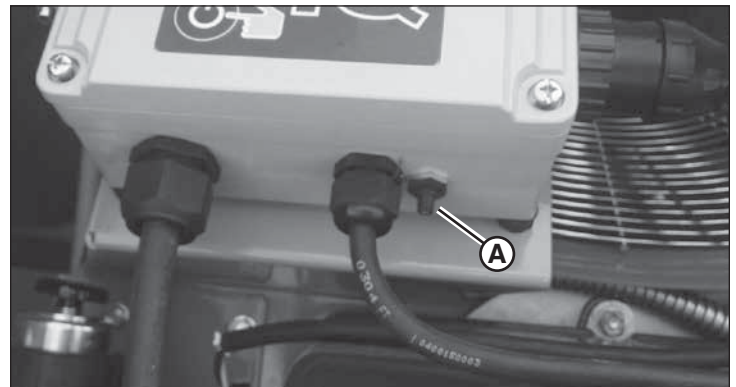

Figure 43
3. Reset the main fan circuit breaker. Locate and press the circuit breaker reset button at the bottom of the control module (A, Figure 43).